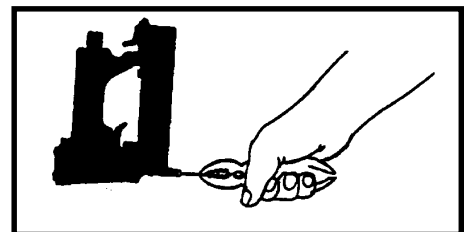

Figure 5
6. Grab jammed fastener with pliers and remove. **(See Figure 5)**